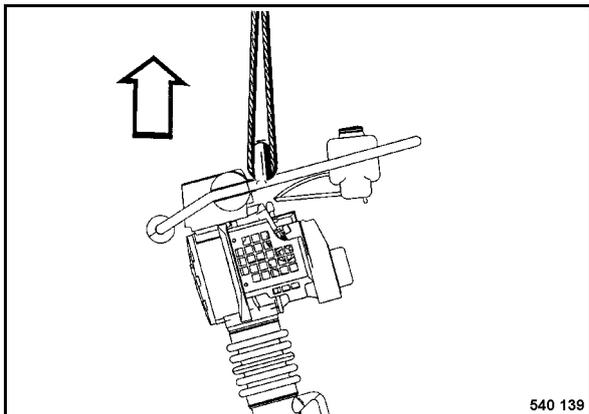

Fig. 30
- To load the tamper attach the lifting tackle only to the cross bar of the steering bow (Fig. 30).